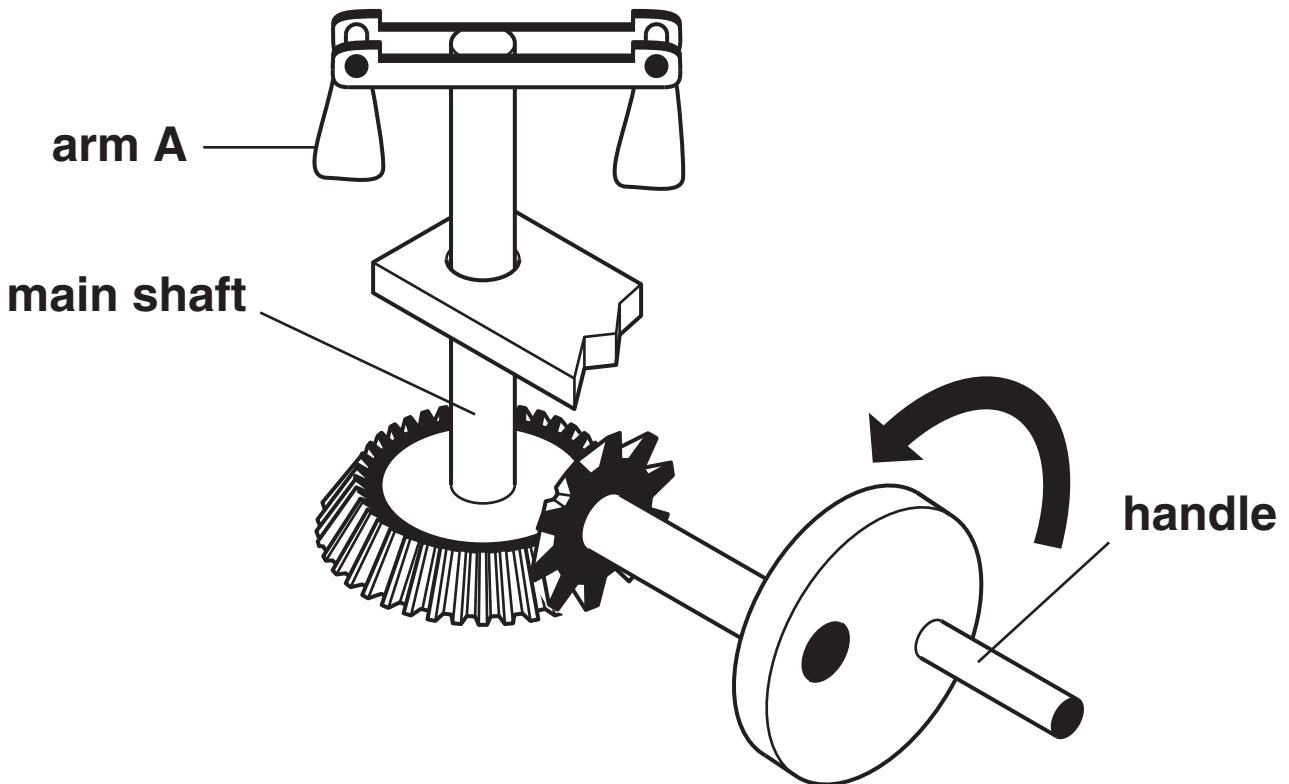

Fig. 6
4 Fig. 6 shows incomplete details of a toy roundabout.
- (a) Draw an arrow on Fig. 6 to show the direction of movement of arm A when the handle is turned as shown.** [1]